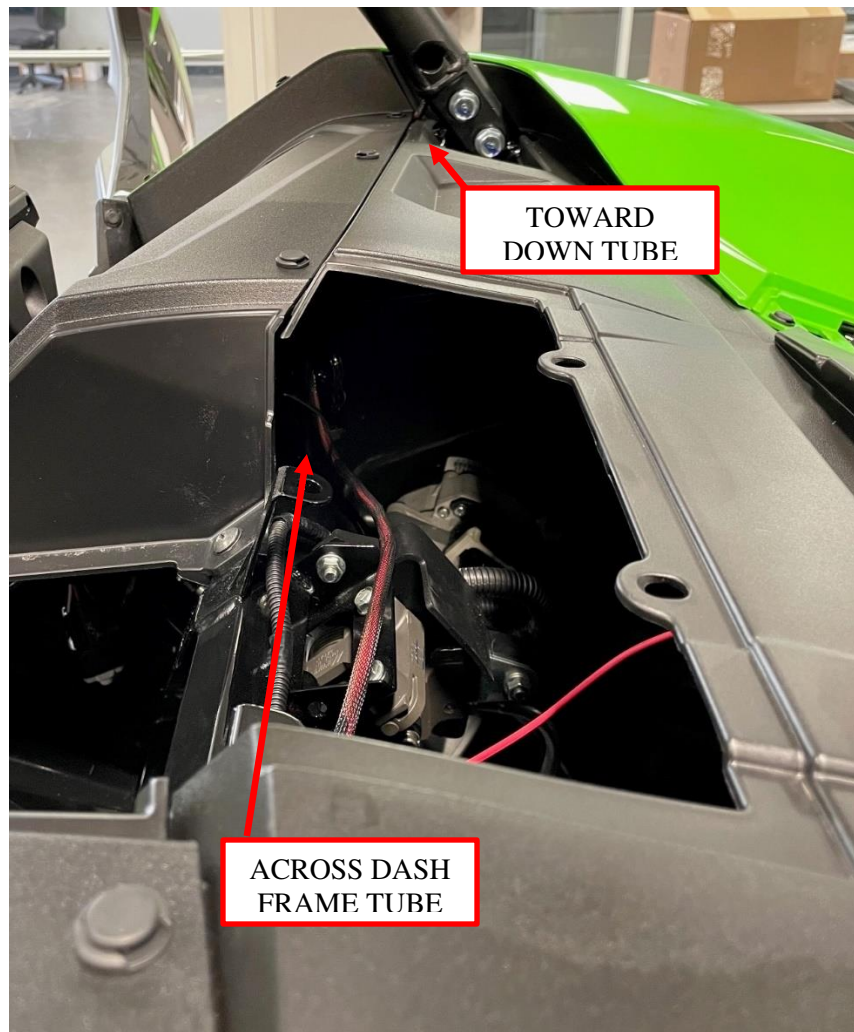

Figure 12: Route chassis harness toward driver's side down tube.
10. Route the chassis harness behind the instrument cluster and across the upper dash frame tube toward the driver's side front down tube as shown in Figure 12. Loosely zip tie the harness to the dash frame tube until the *Audio Mini* is secured in its desired position.